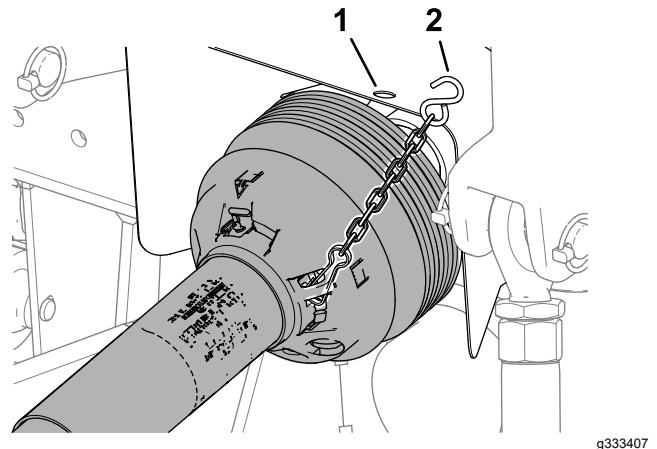

Figure 49
5. Disconnect the safety shield chain (Figure 49) from the traction unit PTO (CE only).